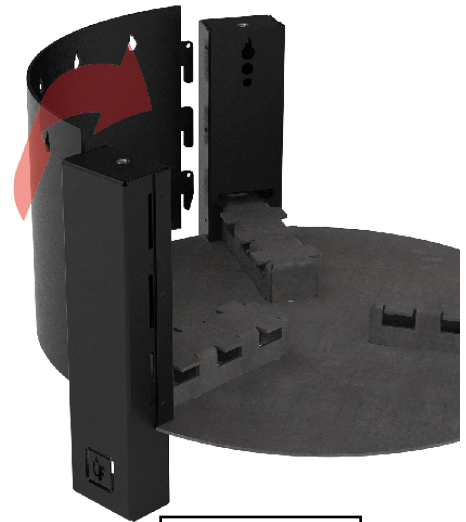

FIGURE 8
Step8: Insert the opposite tabs into the second leg and gently lower the Side wall (W) all the way down, as shown in Fig. 8